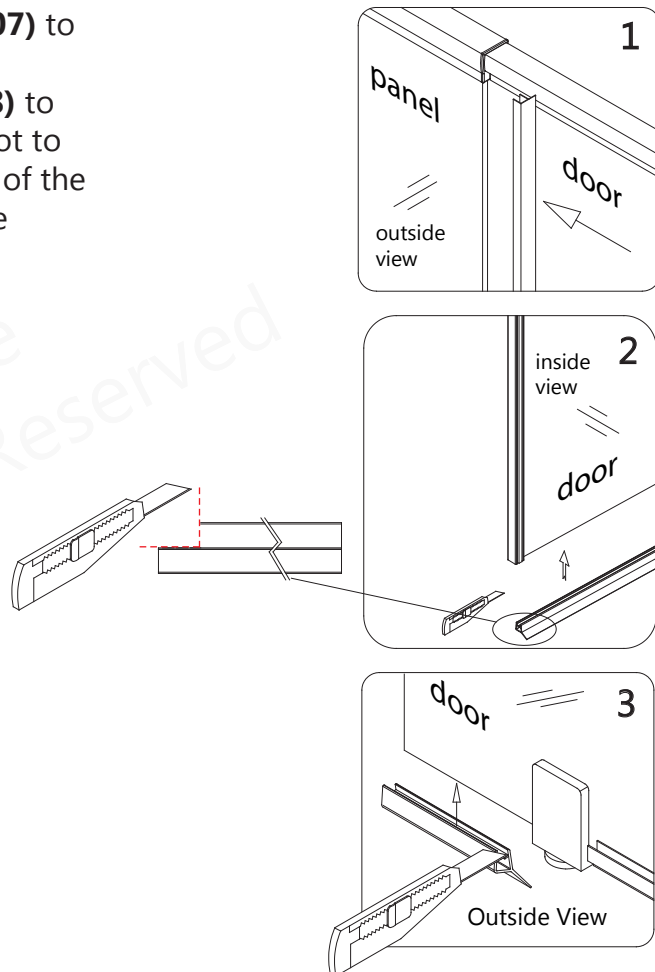

Fig 12
12. Attach the **Vinyl Seal with Flexible Fin (#07)** to the vertical edge of the Stationary panel glass. Measure and cut the **Bottom Sweep vinyl (#08)** to cover the bottom edge of the door from the pivot to both sides of the Glass door. Attach both pieces of the **Bottom Sweep vinyl** to the bottom edge of the Glass door. (**Fig 12**)